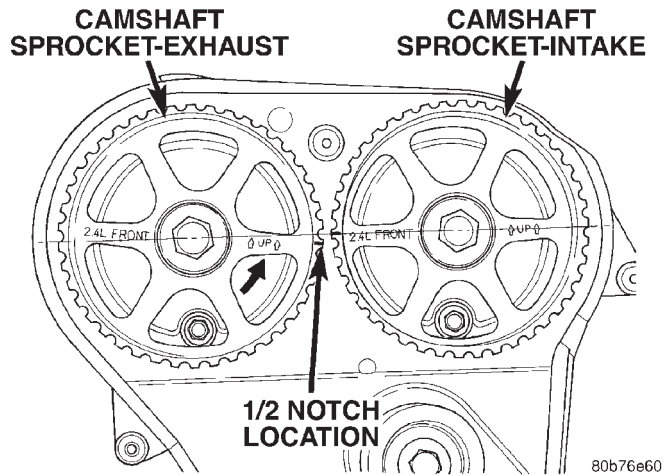

Fig. 61 Camshaft Sprocket Alignment For Timing Belt Installation
(1) Set crankshaft sprocket to TDC by aligning the sprocket with the arrow on the oil pump housing.
(2) Set camshafts timing marks so that the exhaust camshaft sprocket is a 1/2 notch below the intake camshaft sprocket (Fig. 61).